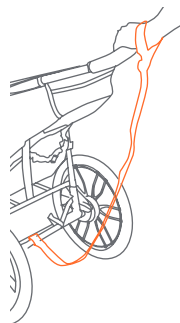

Fig. 18b
- **Safety wrist strap:** Always connect the safety strap to either wrist when jogging. This strap will keep the stroller from rolling away in the event that you trip while running (Fig. 18b).